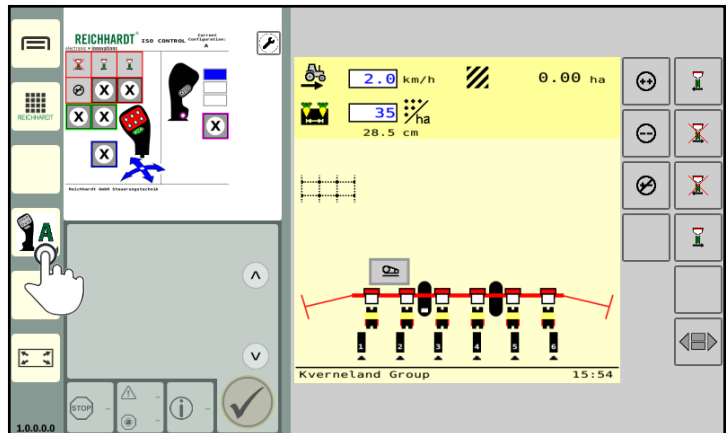
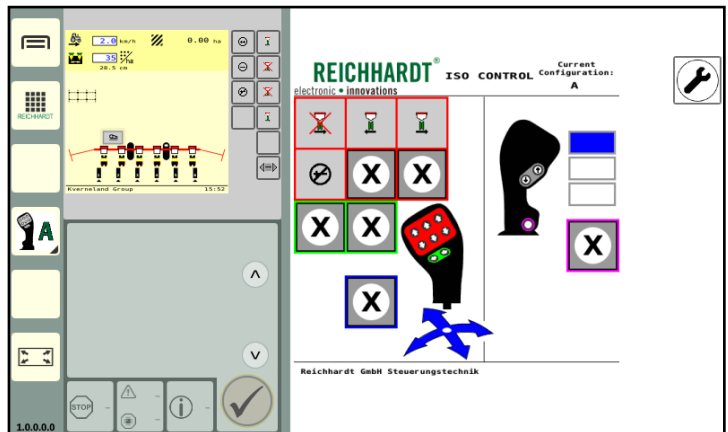

Fig. 49: Shortcut of an application (already running in the small window) is tapped to run it in the main window
Fig. 50: Application is moved to the main window and swapped with the original application from the main window
- If an application is active in the main window when a second application is tapped, the first application is automatically moved from the main window to a small window (see Fig. 49 and Fig. 50).